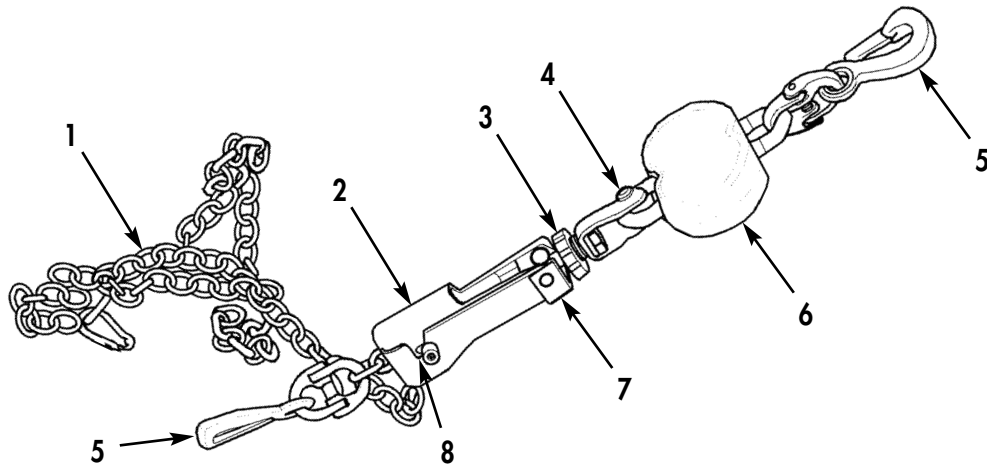
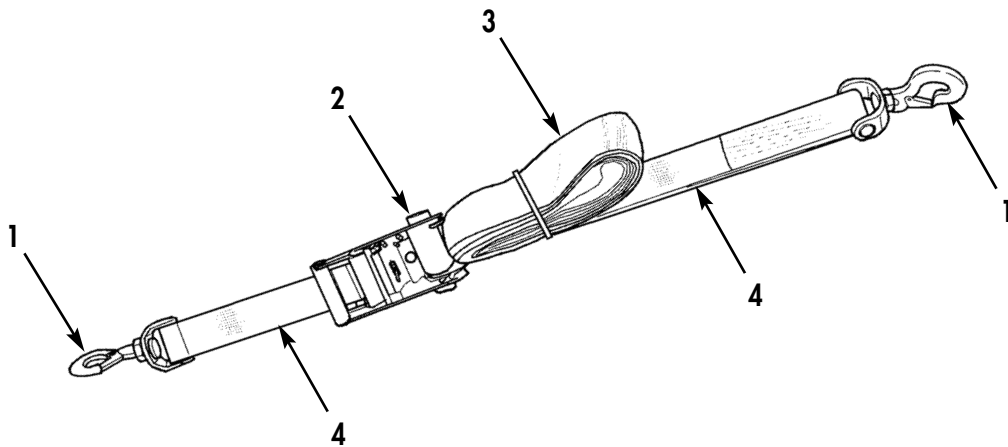

Figure 1. Tiedown Chain Assembly.
Figure 2. Tiedown Strap Assembly.
1. Using cleaning solvent, brush, and clean cloth, remove all build-up of oil and dirt from each chain tiedown assembly (Figure 1, Item 4) and each tiedown strap assembly (Figure 2, Item 3). Dry tiedown chain assemblies (Figure 1, Item 4) and tiedown strap assemblies (Figure 2, Item 3) with clean cloth.
2. Using soap and water, wash each chain tiedown assembly (Figure 1, Item 4) and each tiedown strap assembly (Figure 2, Item 3). Rinse exterior surfaces thoroughly and allow to air dry.
1. Inspect each chain tiedown assembly (Figure 1, Item 4) for cracks and damage or missing parts. Check chain (Figure 1, Item 1), two hook ends (Figure 1, Item 5), tensioner assembly (Figure 1, Item 7), shock mitigation block (Figure 1, Item 6), adjustment wheel (Figure 1, Item 3), hook (Figure 1, Item 8), and tensioner lever (Figure 1, Item 2) for damage. Discard chain tiedown assembly (Figure 1, Item 4) if any cracks, damage or missing parts are found.
2. Inspect each tiedown strap assembly (Figure 2, Item 3) for tares in two straps (Figure 2, Item 4), damage to hook ends (Figure 2, Item 1), and functionality of ratchet (Figure 2, Item 2). If any tears, damage, or missing parts are found, discard tiedown strap assembly (Figure 2, Item 3).